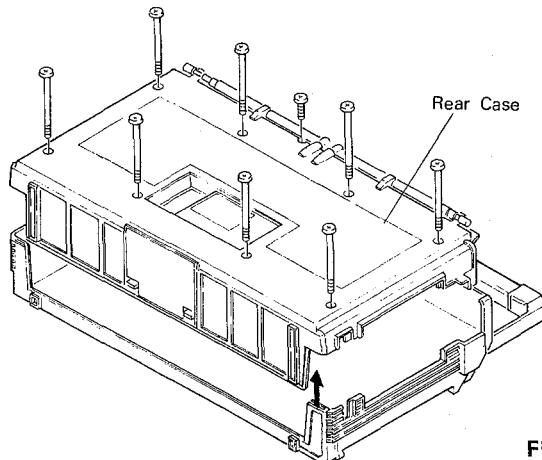

Fig. 4
2. Unscrew the nine screws which hold the rear case. The bottom of the rear case may be slid, and so to remove it, push down from above. (Fig. 4)